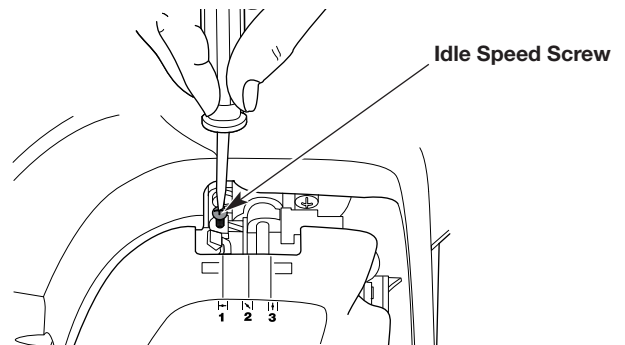

Fig. 23
- If the engine stops, use a small Phillips screwdriver to turn the idle speed screw clockwise, 1/8 of a turn at a time (as needed) until the engine idles smoothly (Fig. 23).
- If the engine idles too quickly, turn the idle speed screw counterclockwise, 1/8 of a turn at a time (as needed) to reduce the idle speed (Fig. 23).